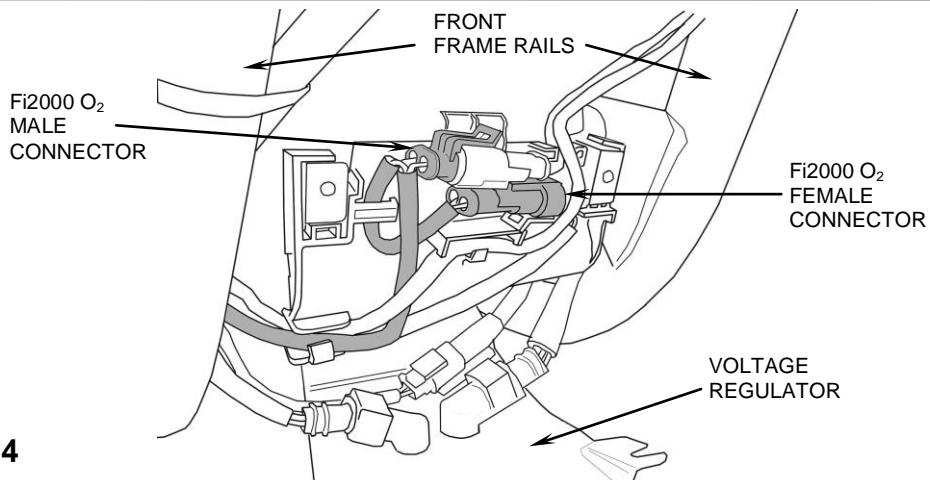

FIGURE 4
10. Remove the 2 Allen bolts that secure the voltage regulator bracket to the frame, and remove the rectangular cover over the top of this bracket. Ease the voltage regulator forward just enough to access the front O₂ connector. Unplug the connector and then plug the Fi2000 female connector into the original H.D. male connector and Fi2000 male into the corresponding H.D. female connector. Replace these connectors into the voltage regulator bracket using the stock wiring clips and reassemble onto the bike, making sure the Fi2000 wire exits the bottom/right corner of the cover just like the original wire was routed. See Figure 4 for connector and wiring placement.